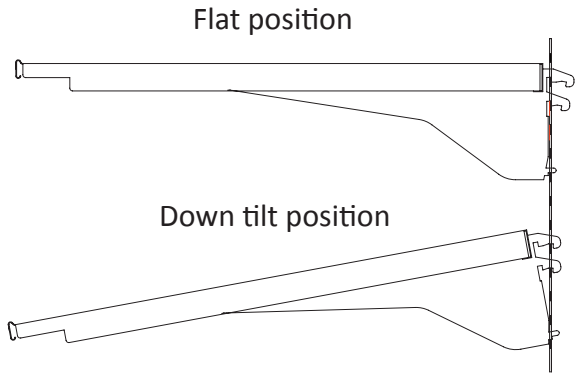

Fig. 9 Shelf position
- The shelves are individually mounted in 1 in. increments on upright and tabs must be seated firmly into position in the uprights before loading shelves. The shelves have two position brackets permitting shelves to be placed in a flat or down-tilt position. (Fig. 9)